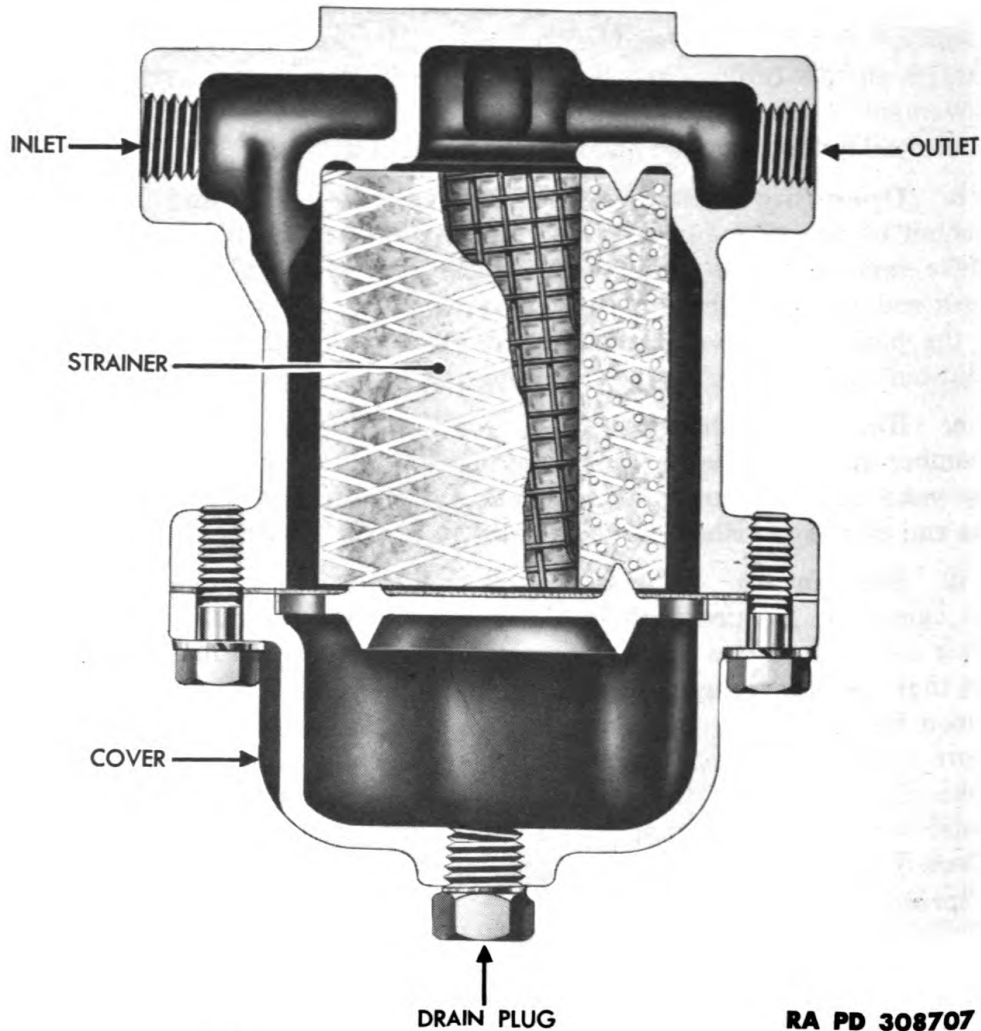

Figure 30—Air Filter—Sectional View
(1) **PURPOSE.** Air filters (fig. 30) are used in the service line and the emergency line of semitrailers to trap any dirt or foreign matter which might get into these lines through the air hose connectors when the hose lines of the tractor truck are disconnected and the dummy couplings are not in place on the air line couplings of the semitrailer.
(2) **DESCRIPTION.** The sectional case of the air filter encloses a replaceable air strainer of wound-cotton construction. The lower cover of the filter is fitted with a drain plug (fig. 30).